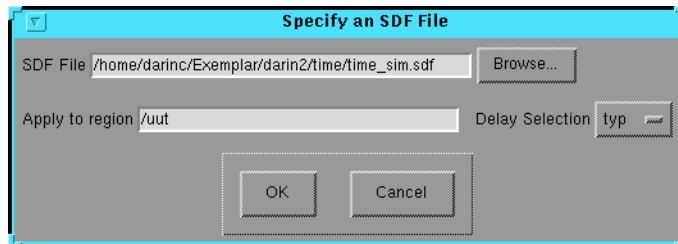

Figure 1-26 Specifying the SDF File
a) Click on the SDF tab of the Load Design window. Refer to the following figure 1-26.